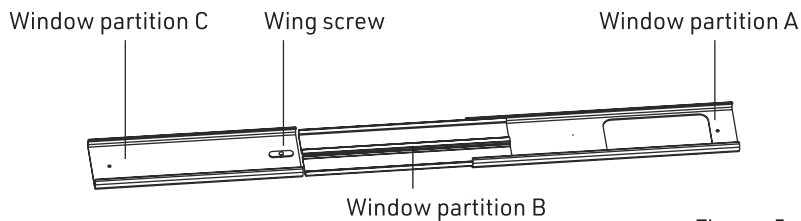

Figure. 5
- 6.) As shown in Figure 5, insert the window partition C into the window partition B from the side (the wing screw head needs to be stuck into the slot of the window partition B), and adjust the assembly length as required;